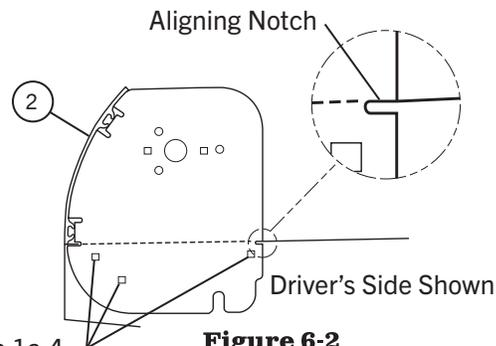

Figure 6-2
3) **Figure 6-2.** Move the end plates inward until they are against the cab shield or top rail. Lift rear of assembly until the aligning notch is even with the top rail. Clamp driver's side end plate into place.
5) Secure driver's side end plate with 3/8-16 x 1 hex bolt (5), 3/8 lock washer (6), and 3/8-16 Nylon hex nut (7).
6) Repeat **Steps 1a.4–1a.5** for passenger's side end plate (1).
7) Tighten nuts on carriage bolts holding the wind deflector (2).